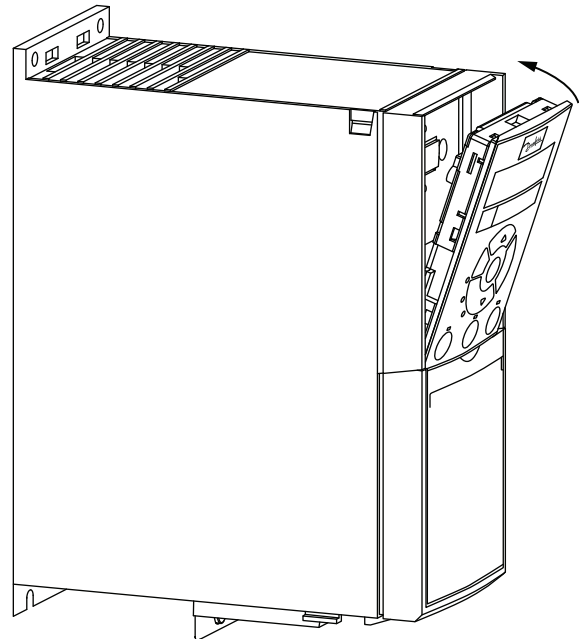

Fig. 61 — Secure Keypad in Place
2. Push the top of the VFD keypad into the variable frequency drive as shown in Fig. 61.